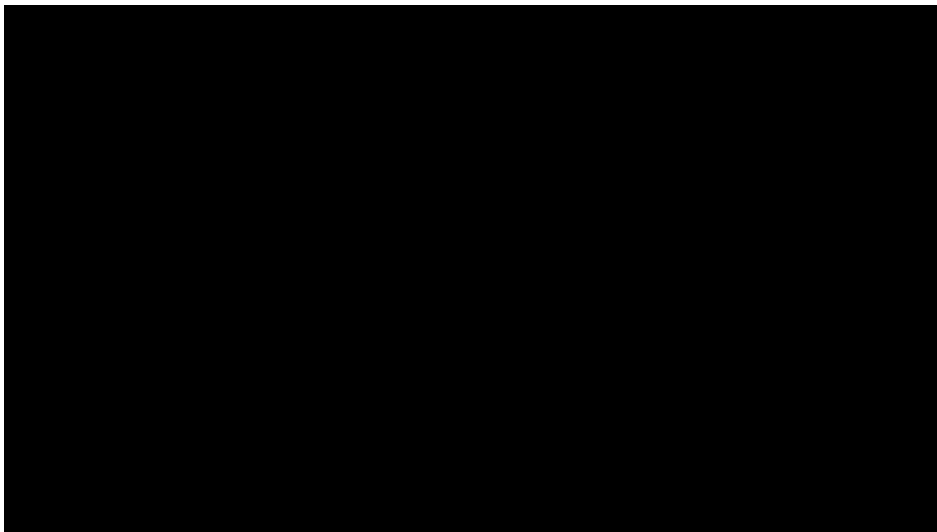

Figure 3-4: Optimum posture for neutron detection
- When moving the identiFINDER R425 to different locations in the environment under survey (see p. 44, step 1), position the neutron detector close to your midsection as shown in Figure 3-4.